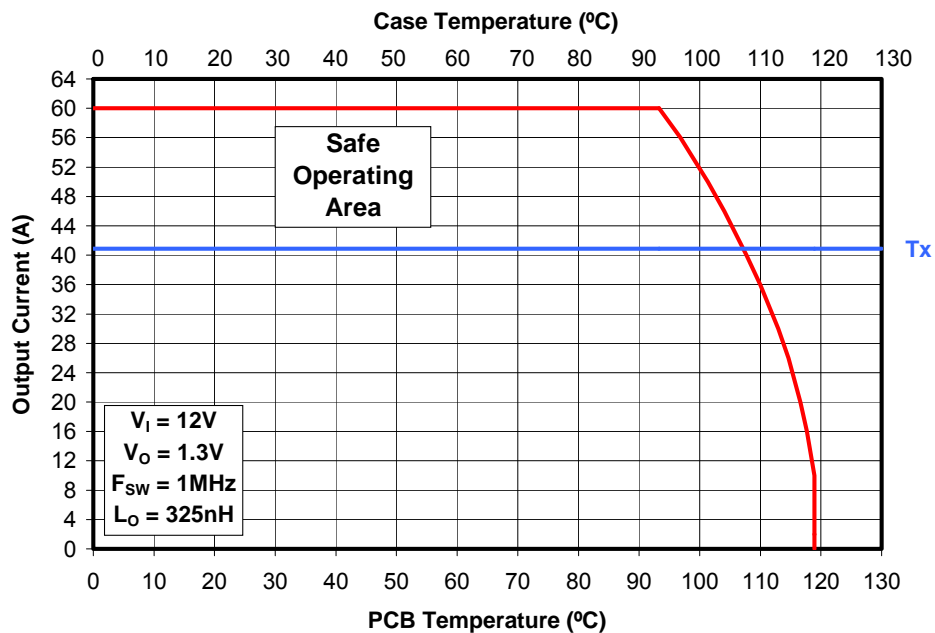

Figure 2 Safe Operating Area Curve
3. Then, add the sum of the SOA temperature adjustments to the T_x axis intercept in Figure 2